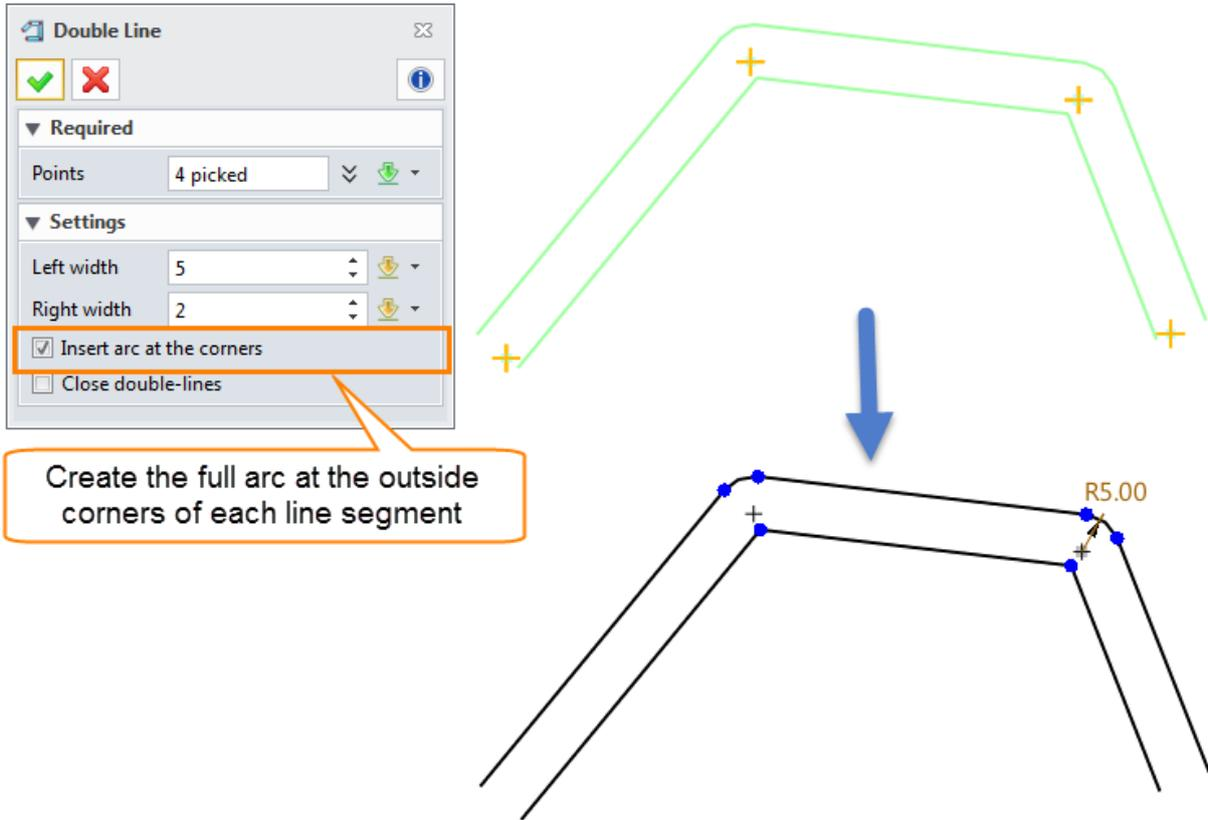

Figure 19 Double Lines with Arc
STEP 03 If you want to add the arc, please check the option “Insert arc at the corners”. Then the full arc at the outside is created. The arc radius is determined by this side with, see the Figure 19.